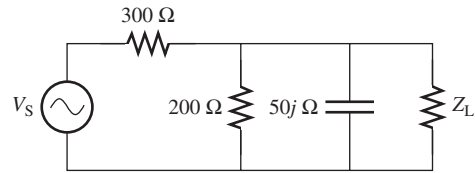

FIGURE P6.48 Circuit for Problem 6.48.
- 6.48 (A) Sketch the Thévenin and Norton equivalent circuit for the circuit shown in Figure P6.48, where $V_S = 20\angle30^\circ$.